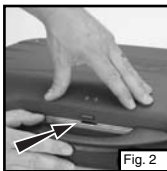

Fig. 2
■ To open the lid, press the latch release located above the handle. (Fig. 2)